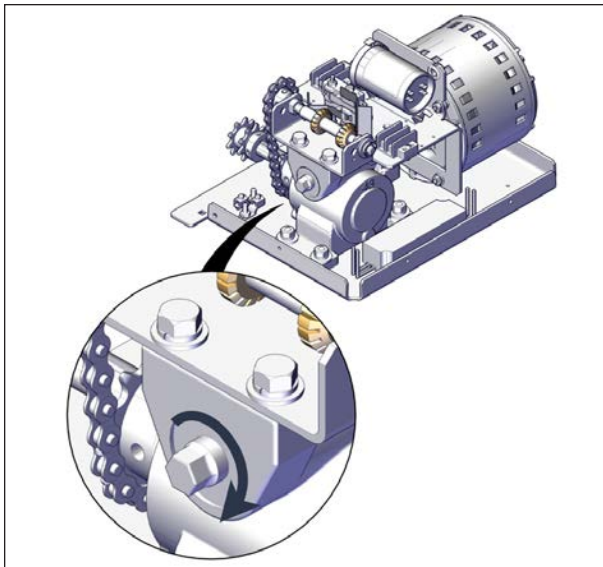

FIGURE 84: OPERATOR EXTENSION SHAFT
3. Use ½ in. (13 mm) hexagonal socket wrench to raise or lower the spa cover by turning the operator extension shaft see Figure 84.